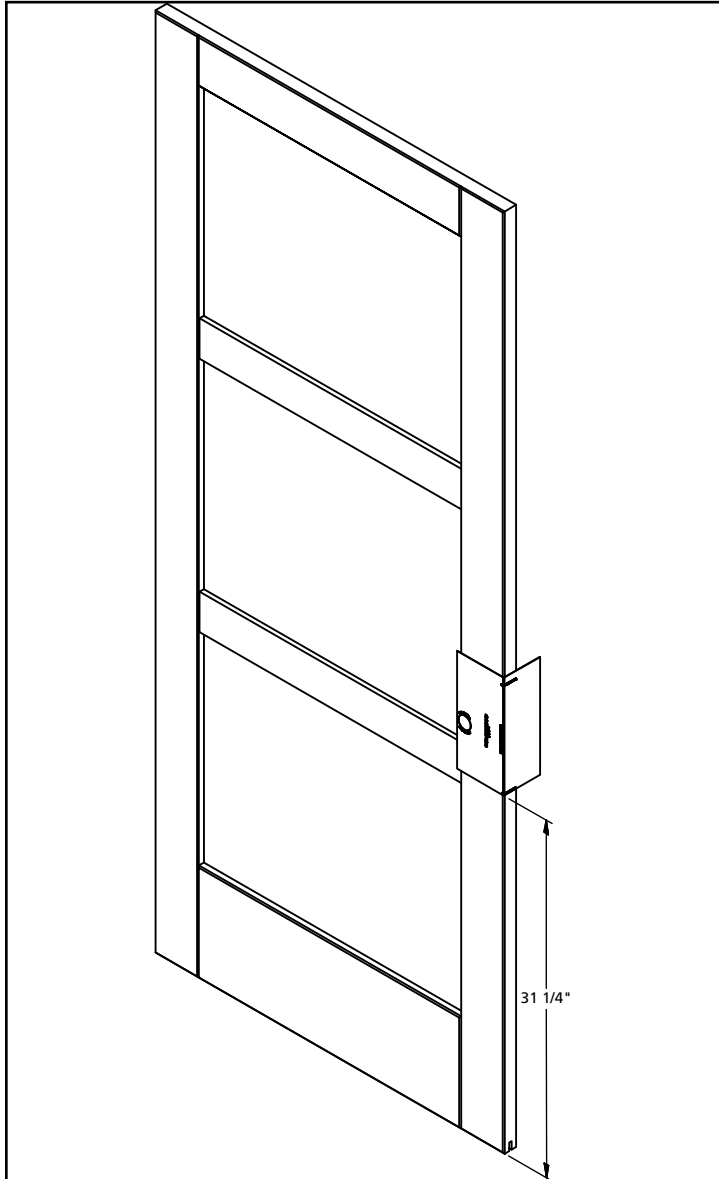

Figure 10. Bent Hanger Style Finger Pull Drill Guide Placement
Drill out the optional hole for mounting the finger pull to the back face of the door, as shown in Figure 10.
3. Align the drill guide on the back face of the door 31 1/4" from the bottom of the door as shown in Figure 10.